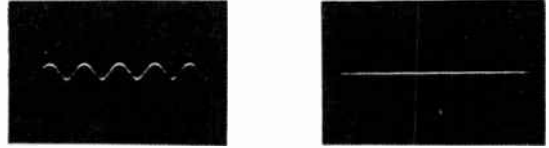

Fig. 3-8. Fm discriminator alignment output response
4. If the discriminator transformer is not aligned correctly, 400-Hz ripple will be observed as shown in Fig. 3-8.
5. Turn the top core of transformer IFT201 with an alignment tool to obtain a minimum indication on the oscilloscope as shown in Fig. 3-8.